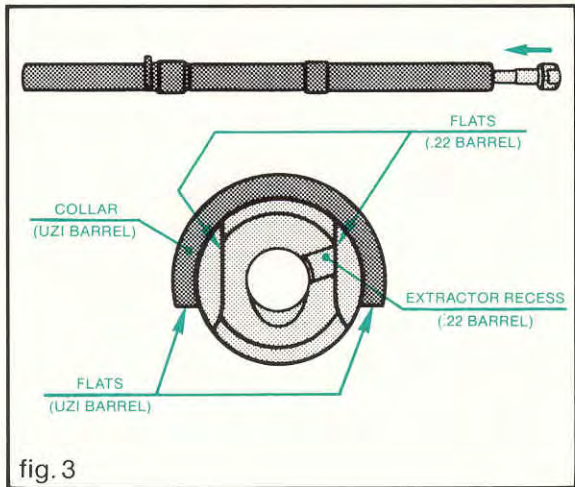

fig. 3
2. From the chamber end, insert the .22 barrel into the carbine barrel as far as possible; Make sure that the .22 barrel extractor recess is facing 2 o'clock and that its two flats are perpendicular to the flats on the carbine (fig. 3).